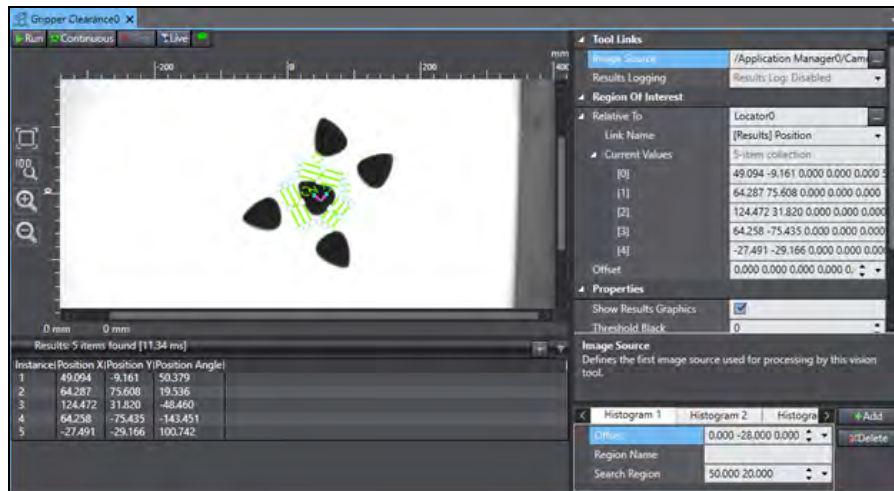
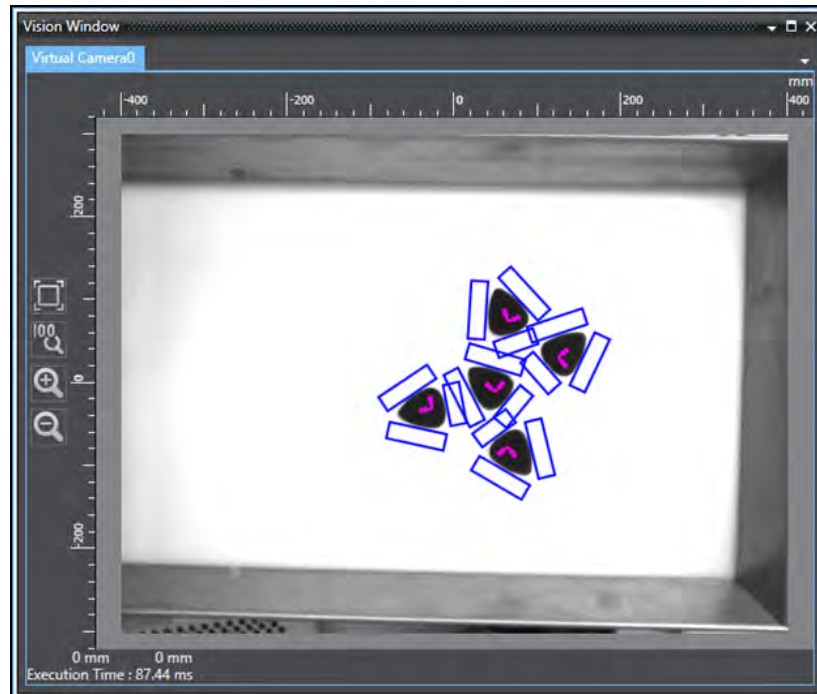

Figure 8-193 Gripper Clearance - Relative To Locator Tool (Editor)
Figure 8-194 Gripper Clearance - Relative To Locator Tool (Vision Window)
**NOTE:** Some tools display all instances in the image display. Some only display the region created with respect to the first instance and return the remainder in the Results section. The additional instances can be viewed in the ACE Vision Window as long as the property Show Results Graphics is enabled. Refer to the Vision Window in Figure 8-193 (which is based on the tool in Figure 8-194 below).